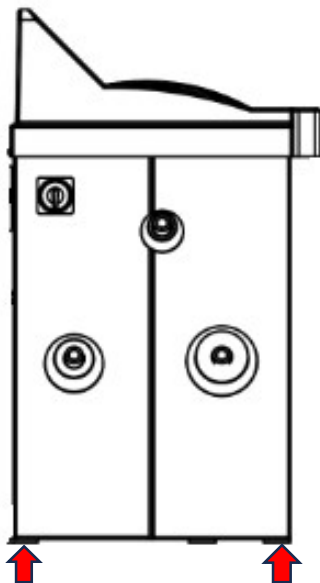

Figure 2.0 – Always lift the machine upright evenly from the front and back (See the red arrows)
2.1.2 Keep the back panel 0.6 meters away from the wall for good ventilation (Figure 2.0). Enough room should be left on both sides for convenient operation. Select a location for the balancer that provides a level, solid floor, and adequate clearance around and above the balancer. The location must also provide working room for mounting and removing wheels. Make sure the area has adequate lighting.
2.1.3 Secure the balancer to floor with concrete screws at 4 locations marked by the blue arrow in the picture shown above (Figure 2.0).